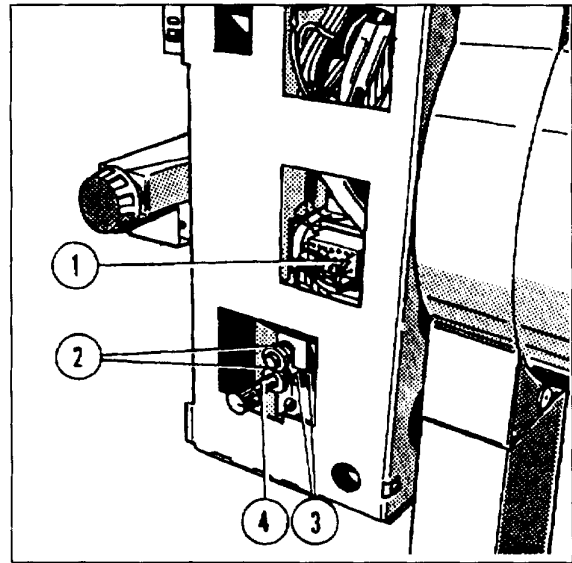

Fig. 2
- Select any value (e.g. 6kp) on the potentiometer (4/ Fig. 2) and activate compression electronically.